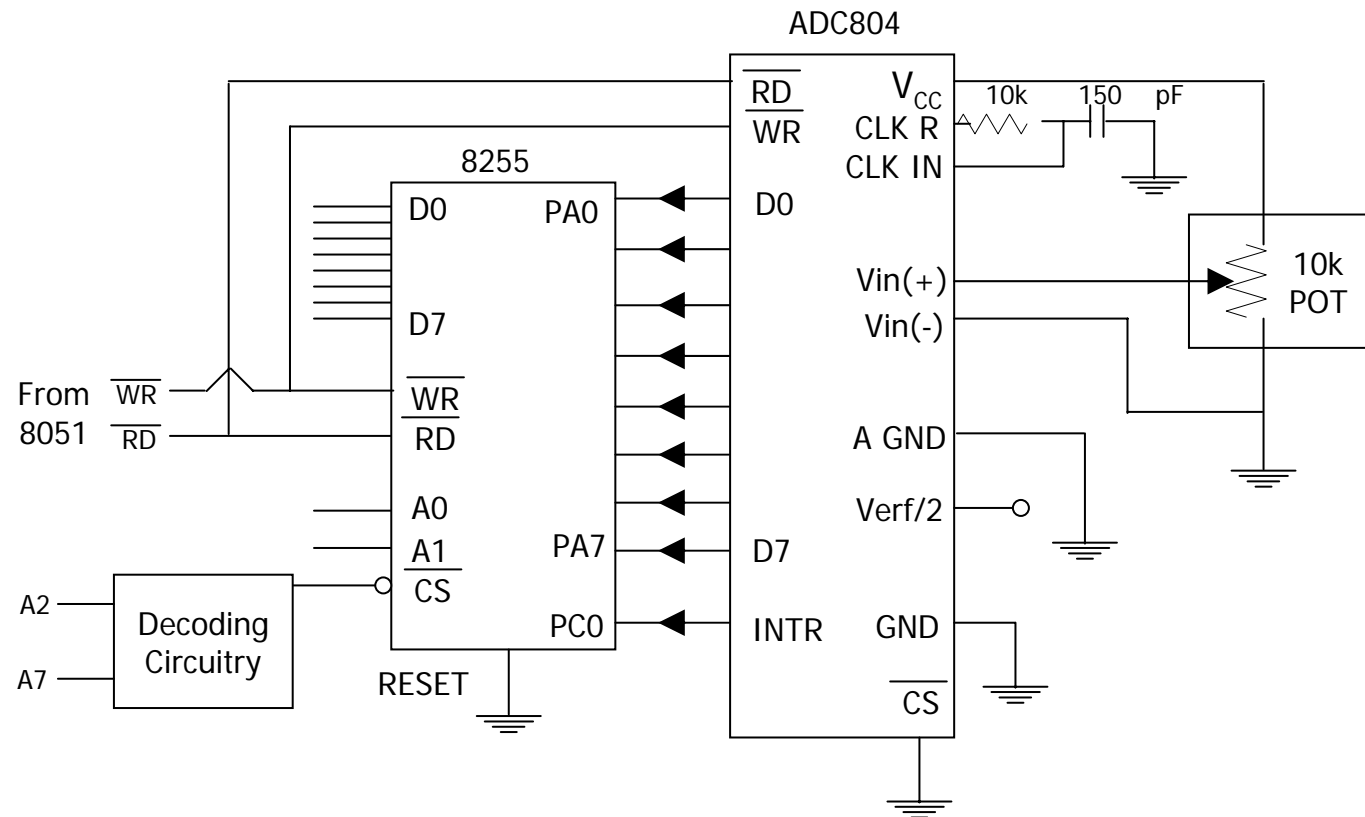

Figure 15-11. 8255 Connection to ADC804
- ❑ the following is a program for the ADC connected to 8255 as show in fig 15-11